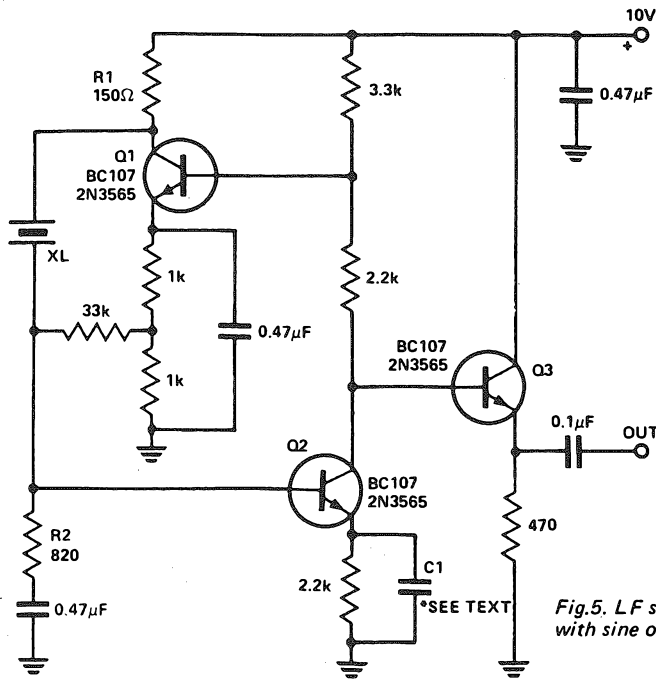

Fig.5. LF series mode oscillator with sine or squarewave output.
The circuit in Fig. 5, is a series mode oscillator described by Lane (3). It has the advantage of not requiring a tuned circuit, and has a choice of sine or square wave output. For crystals in the range 50-150 kHz, 2N3565 transistors are recommended although the author has found BC107's satisfactory. Either type will suffice for crystals in the range 150 kHz to 500 kHz. If you find the crystal will not start reliably, most likely the crystal has a very high equivalent series resistance, in which case increase R1 to 270 ohms and R2 to 3.3 k (as recommended by Lane). For square wave operation, C1 is 1 μF (or a value close to, or above it). For sine wave output, C1 is not in circuit. Amplitude limiting is unnecessary. Sine wave output is about 1 V rms, square wave output about 4 V peak to peak.